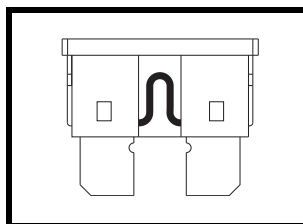

Figure 28. Working Fuse
2. Examine the fuse to be sure it is blown. See **figures 28 and 29**.